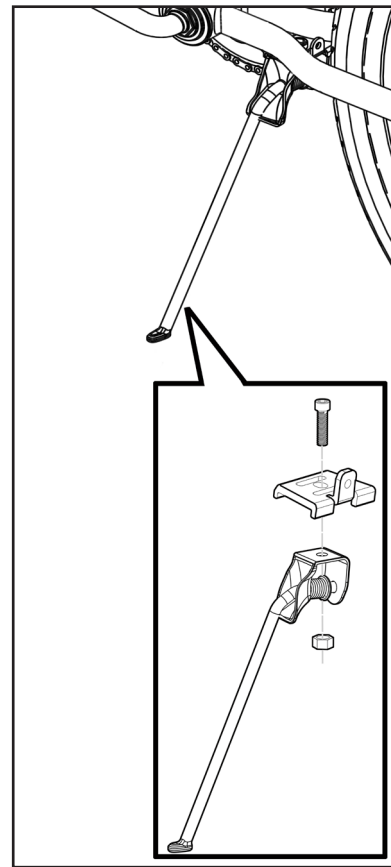

Figure 35
If the kickstand is not mounted to your bicycle, place the bicycle in an upright position against a wall or have someone hold it upright. Place the kickstand in the bracket mounted on the frame and use a pair of (E) Standard Slip Joint Pliers to secure the fixing bolt to keep the kickstand in place. Be sure to tighten the fixing bolt securely. Some kickstands use a top plate to locate the bolt and secure the kickstand using a fixing bolt. Be sure to tighten the axle nut. The guard will sit between the frame and the axle nut (see Figure 35).